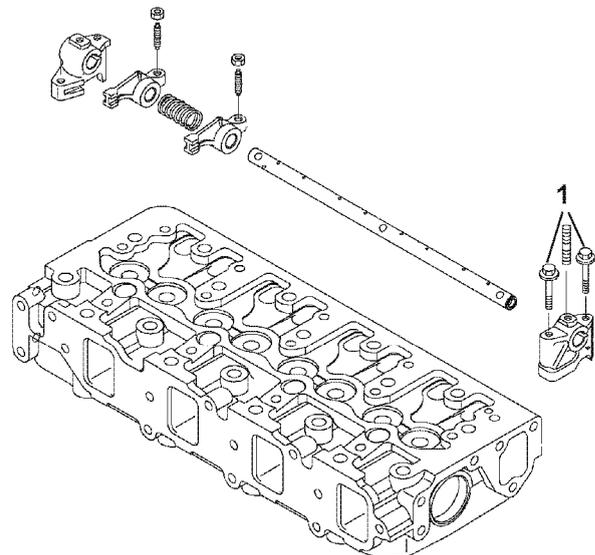

Figure 6-10
1. Remove the bolts (1, **Figure 6-10**) that retain the rocker arm shaft supports.